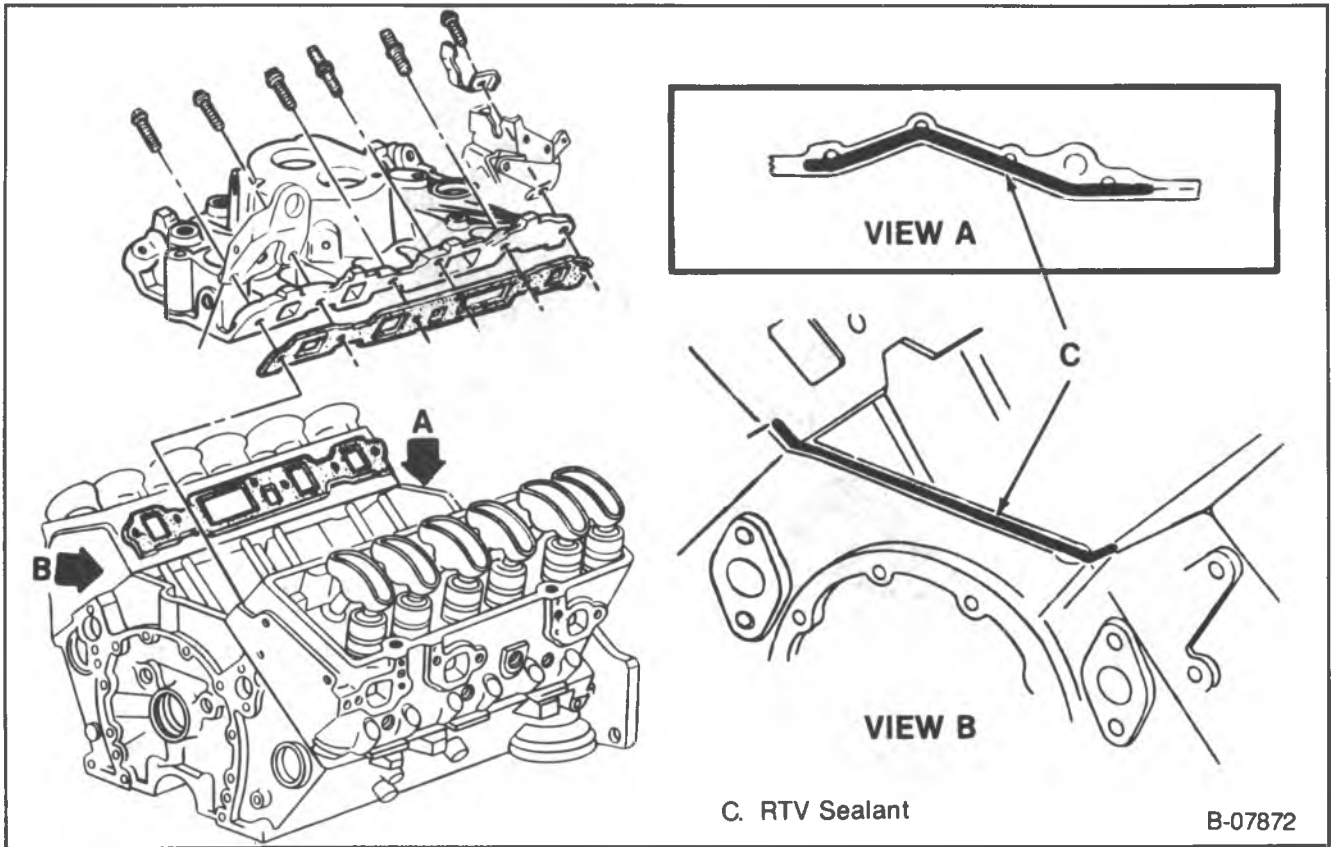

Figure 8 — Intake Manifold
Install or Connect (Figures 8 and 9)
2. RTV to the front and rear sealing surfaces on the block (figure 8). Apply a 5 mm (3/16-inch) bead of RTV (part number 1052366 or equivalent) to the front and rear of the block as shown. Extend the bead 13 mm (1/2-inch) up each cylinder head to seal and retain the gaskets.